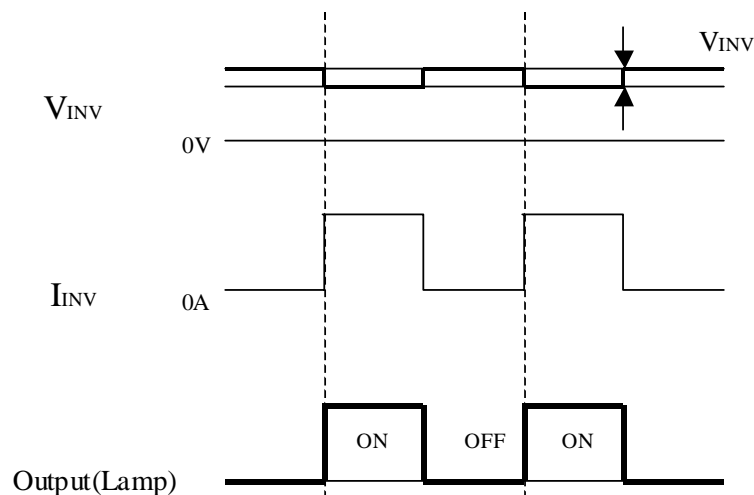

Fig.5 Brightness control and ripple of  $V_{INV}$
- c) Brightness control voltage is switched for "ON" and "OFF", as shown in Fig.5. Voltage difference generated by this switching,  $V_{INV}$ , may affect a sound output, etc. when the power supply is shared between the inverter and its surrounding circuit. So, separate the power supply of the inverter circuit with the one of its surrounding circuit.